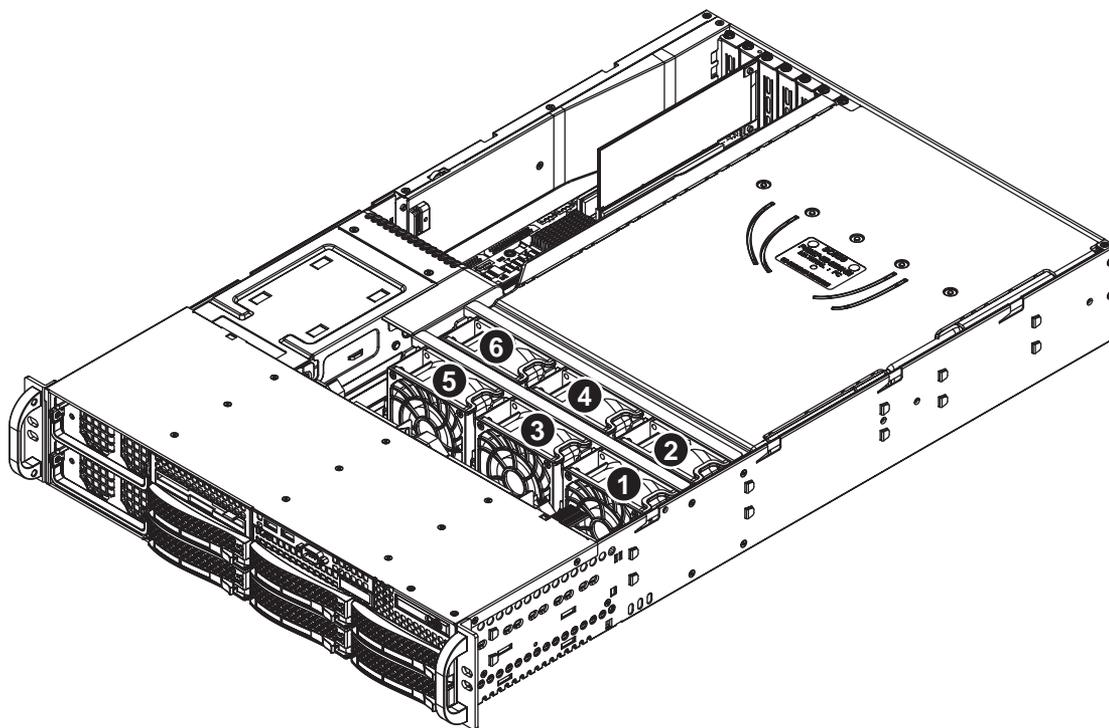

Figure 6-1 System Cooling Fan Locations
7. The fan identification number for each unit's physical location is shown in Figure 6-1.